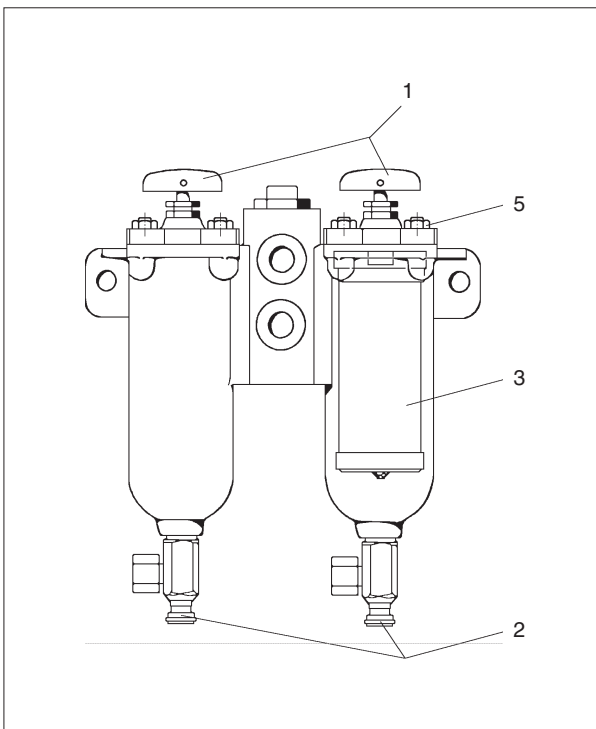

Fig 1 Fuel oil split filter
2) Normally the filters are cleaned during operation by turning the handle, (1) see fig 1, on the filter housing top a couple of turns. (clockwise).